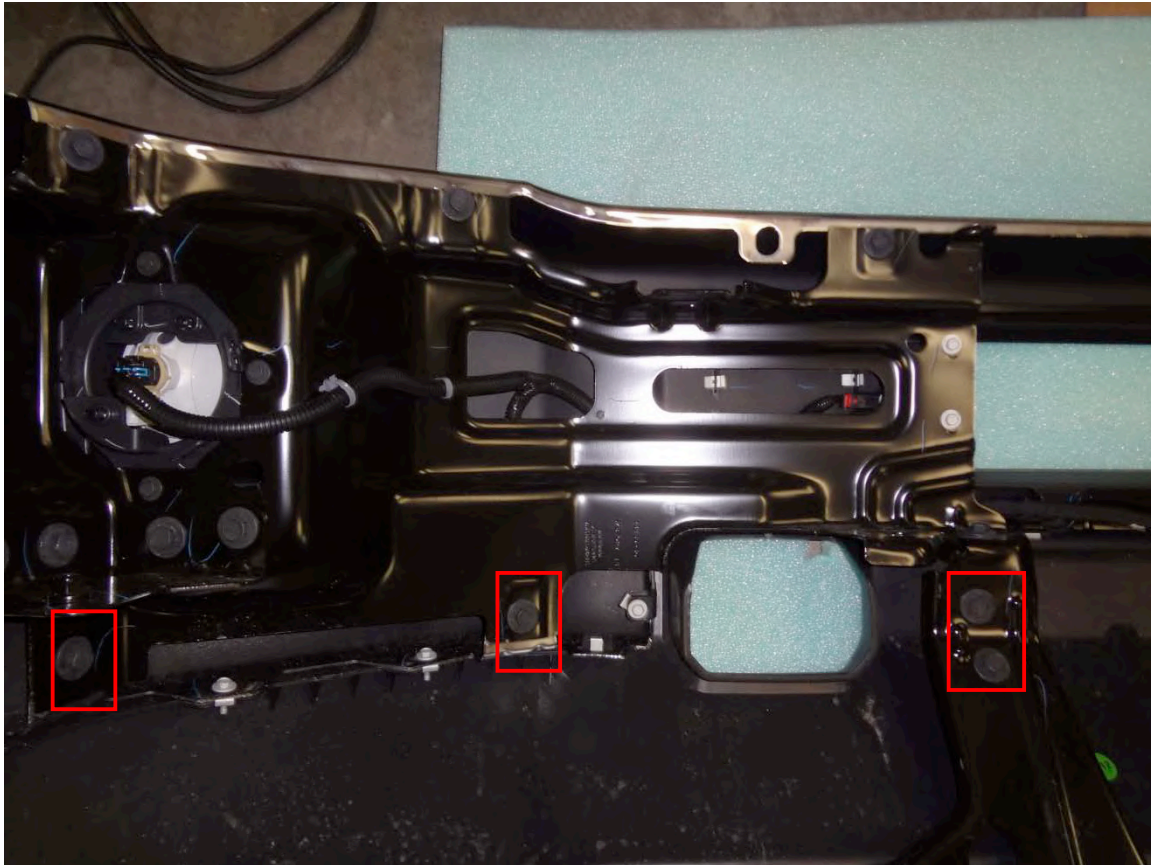

Figure 6
- F. Remove OEM electrical harness from bumper. Disconnect harness from fog lights and sensors. Unbolt bumper support frames as necessary to more easily access sensors, start with the bottom bolts indicated by squares (Ref. Figure 6). Remove sensors and outer sensor housings for use on the Grumper